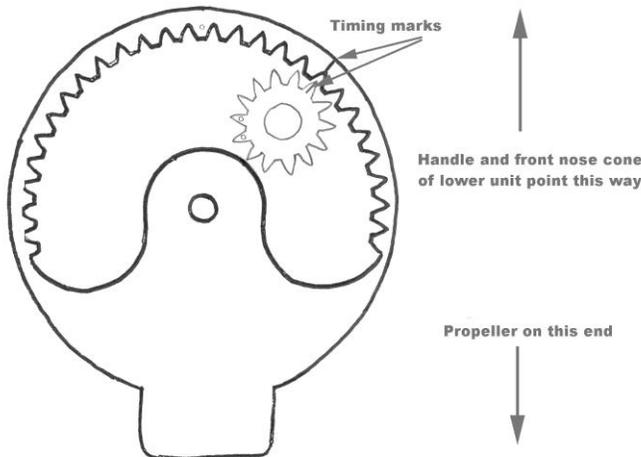

Fig. 6
**NOTE:** The timing mark used for transom mount 3X models is a small raised rib located at the 1:30 o'clock position on the inside circumference of the gear carrier. (see **Fig. 6, page 9**)